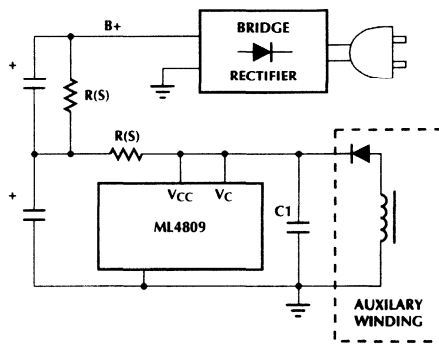

Figure 14. Typical Off-Line Start-Up Circuit and Timing.
In the circuit in Figure 14, the ML4809 remains in a low quiescent drain (1.1mA) during T1 while C1 charges through R(S) to 16V. After  $V_{CC}$  rises to 16V the ML4809 begins running. C1 provides the energy needed to run the gate drive and ML4809 until the auxiliary winding can provide sustaining energy for the control circuit, preventing C1 from draining below the 9V lockout threshold. The 7V of hysteresis in the Undervoltage Lockout circuit allows the ML4809 to start from a bleed resistor/capacitor easily. While the ML4809 is in the standby (Lockout) condition, OUTA and OUTB will be pulled low.